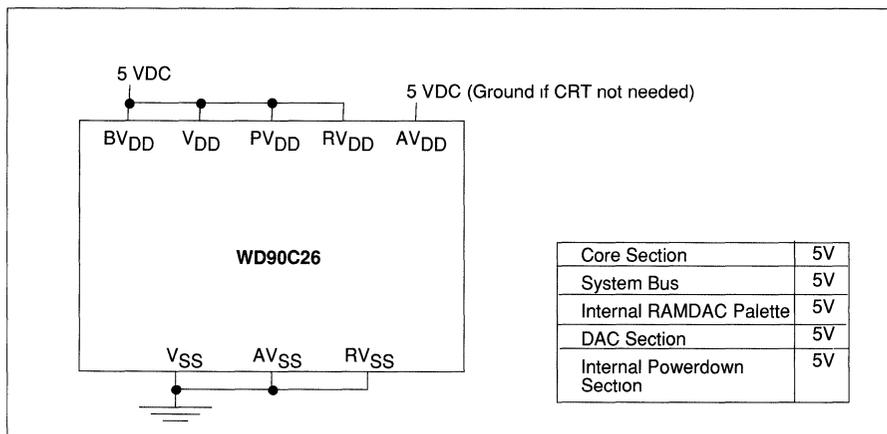

FIGURE 6-3 POWER CONFIGURATION FOR 5 VDC OPERATION
- Power Configuration for 5.0 VDC Operation (Figure 6-3)
The WD90C26 may be operated at 5 VDC by connecting all its V_{DD} pins to a 5 VDC power source (see Figure 6-3).